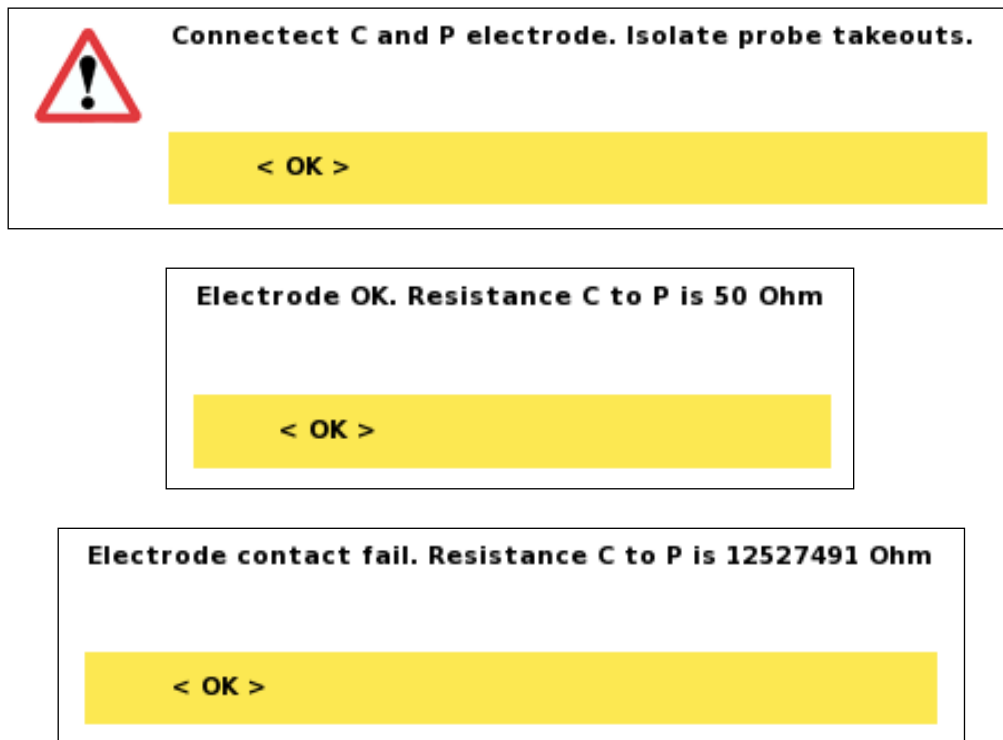

Figure 79 The Electrode Test dialogs
- Follow the instruction on the first dialog (Figure 79)